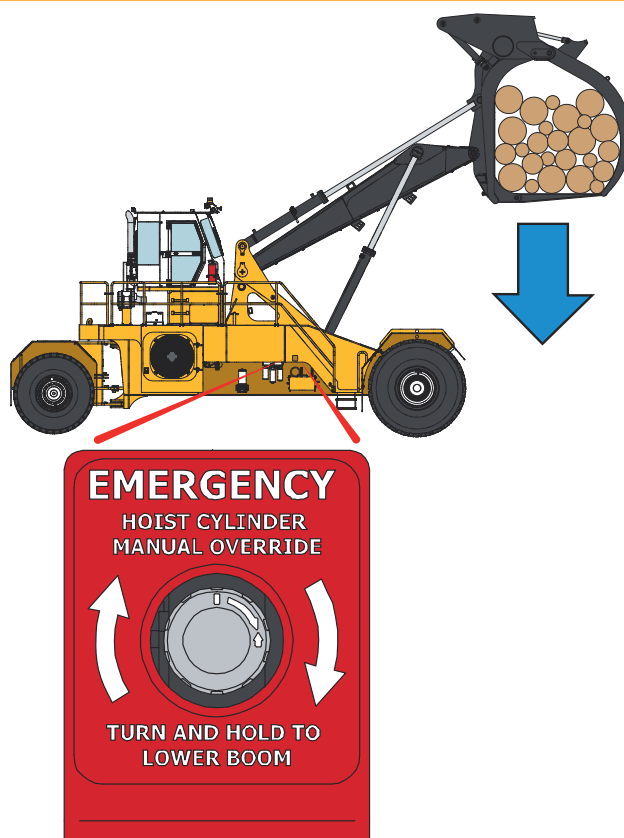

Figure 2-7-7 Emergency Hoist Override Switch
Mounted on the right side of the machine near the boarding stairs (see Figure 2-7-7). Turning the dial clockwise (CW) will drain oil from the base end of the hoist cylinders, causing the boom to lower.